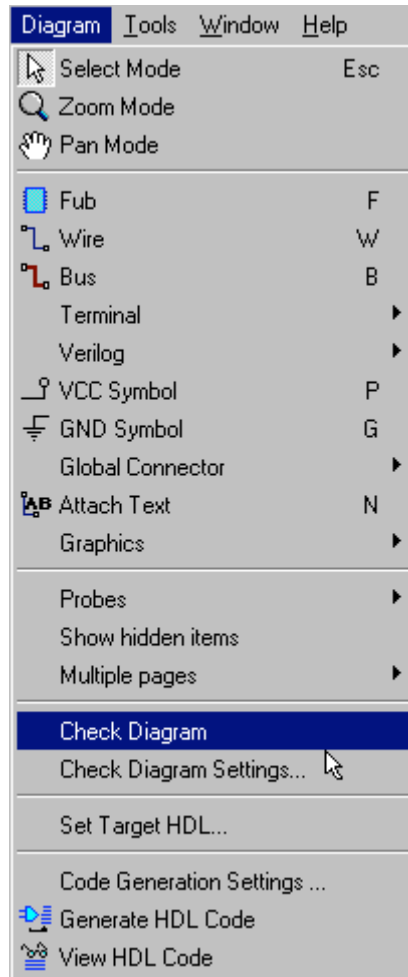
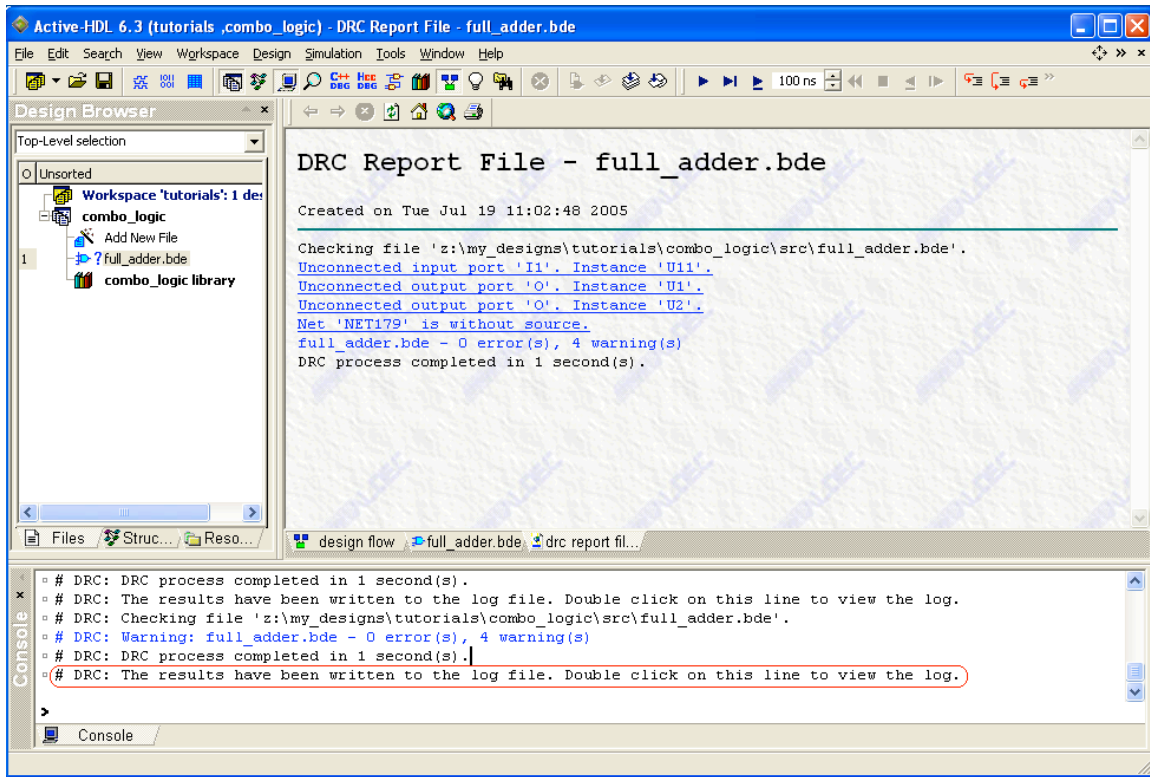

Figure 25
Figure 27
2. Active-HDL provides a “Check Diagram” tool. This tool will verify that the components are connected properly by printing the results into the Design Rule Check report (DRC). To open this report, go to the Console and double-click the line that states, “Double click on this line to view the log” (see Figure 27 in the DRC section). The DRC report is explained later in this tutorial. Always use the “Check Diagram” tool prior to compiling by clicking the Diagram/Check Diagram option in the menu bar (see Figure 25).
When you run the check diagram tool, a DRC report file is created. Open this file by going to the DRC line in the Console and double-click the appropriate line (see Figure 27). This file will list any errors or warnings your design might contain, such as unconnected ports, mislabeled wires and/or terminals, and other connection related errors/warnings. Each error/warning in the report is a hyperlink that will take you to the problematic component in your design. Figure 27 shows an example of a DRC report file for a schematic with an error and some warnings.